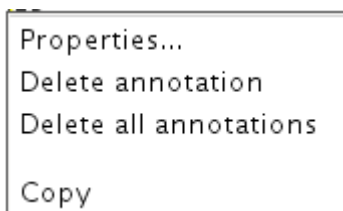

Figure 59 Menu when you right-click an annotation
- 3 In the menu that appears (Figure 59 on page 192) select **Properties**.
- 2 Right-click an annotation. A menu appears where you can select to delete the selected annotation or all annotations (Figure 59 on page 192).